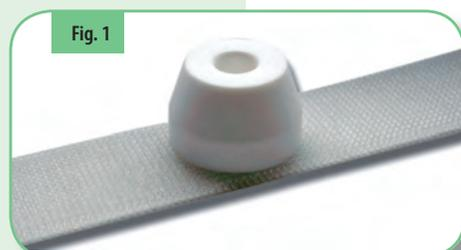

Fig. 1
Since 1991, Airtech Europe manufactures and supply vacuum bagging, composite tooling and resin infusion processing materials. It has been the innovator and up to now continuously develop innovative products and services like the resin infusion connectors with a flat base VAC-RIC LT (Fig. 1) and VAC-RIC HT (Fig. 2) provide efficient through bag connection for vacuum manifold and resin feed lines for low (LT) and high (HT) temperature resin infusion applications. These products have been designed to be placed on the top of the Resintrak, Vactrak or Dahlpac MC79 vacuum breather pad.
Ha avuto un ruolo di grande innovazione e continua a sviluppare nuovi prodotti, ad esempio i connettori per infusione a base piatta VAC-RIC LT (fig. 1) e VAC-RIC HT (fig. 2), che permettono una perfetta connessione attraverso il sacco, per il collettore del vuoto e le linee di alimentazione della resina per infusioni a basse (LT) e alte (HT) temperature.